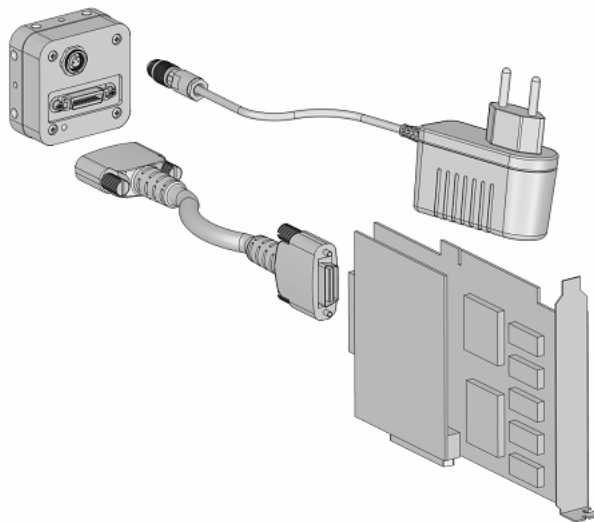

Figure 2.2: Camera with frame grabber, power supply and cable.
5. Connect the camera to the frame grabber with a suitable CameraLink cable (see Fig. 2.2). CameraLink cables can be purchased from Photonfocus directly (www.photonfocus.com). Please note that Photonfocus provides appropriate solutions for your advanced vision applications.
7. Connect the power supply to the camera (see Fig. 2.2).